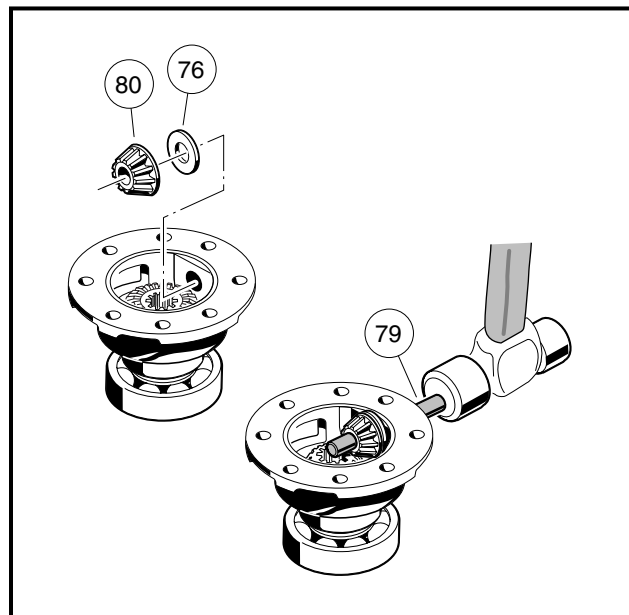

Figure 5-34 Idler Gear
3. Start the differential pin (79) into the carrier case by lightly tapping it with a plastic or rubber hammer. Before the pin enters the inside of the carrier case, position the thrust plate (76) and idler gear (80) in the case and then continue tapping the pin through the thrust plate and idler gear (**Figure 5-34, Page 5-19**).